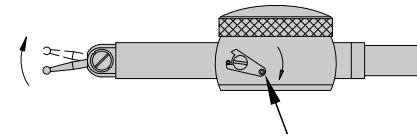
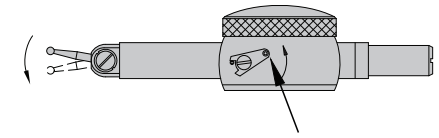

fig.4
fig.5
2. Rotate the reversing device to adjust the styli direction according to the measured workpiece(fig.4, fig.5).